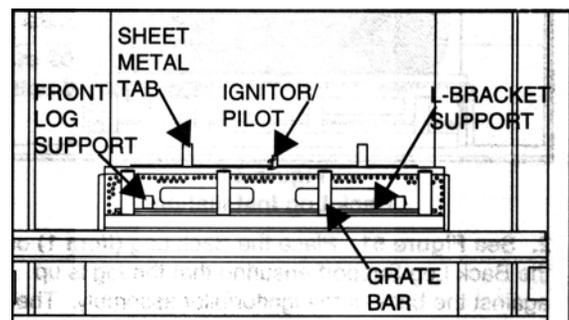

Figure 49
1. If Sheet Metal Tabs are in the upright position, as shown in **Figure 49**, bend them down. They should be flush with the Back Log Support.
Using a phillips screwdriver loosen and remove the left and right outermost screws on the "L" Bracket Support. Remove the (2) Front Log Supports, shown in **Figure 49**.
Also, install or make sure the four (4) Grate Bars are in their respective positions at the base of the Burner Pan Assembly. See **Figure 49**.